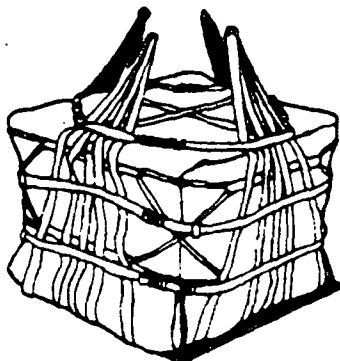

Figure 1-5. Fastening Upper Lateral Straps
Step 8 - Fasten the upper lateral straps in the same manner as in step 7 (Figure 1-5). If the load is not high enough for the upper lateral strap to go around the load, pull the suspension webs to their full height, and fasten the upper straps diagonally across the top corner of the load. Strap fasteners should be tightened to within 4 to 5 inches of the upper lifting leg.